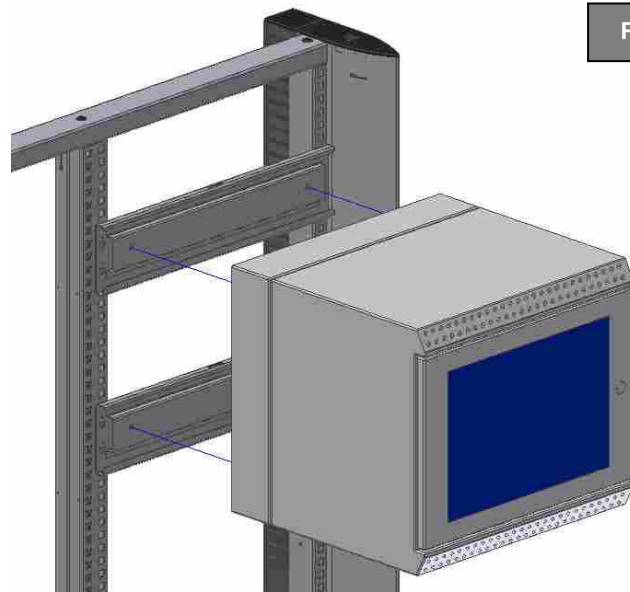

Fig 3
STEP 2 – Mount the **wall rack** on the **TFT supports** and fasten it from the inside with 4 **M6x12 DIN785 Phillips screws** (Fig. 3 and 4).